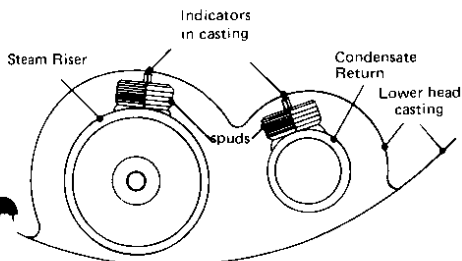

Figure 5 Steam Riser and Condensate Return Alignment.
- Turn the riser or return in until it is leak tight, but **carefully line up the spud centres with the raised indicators on the bosses in the head casting**, as shown in Fig. 5.